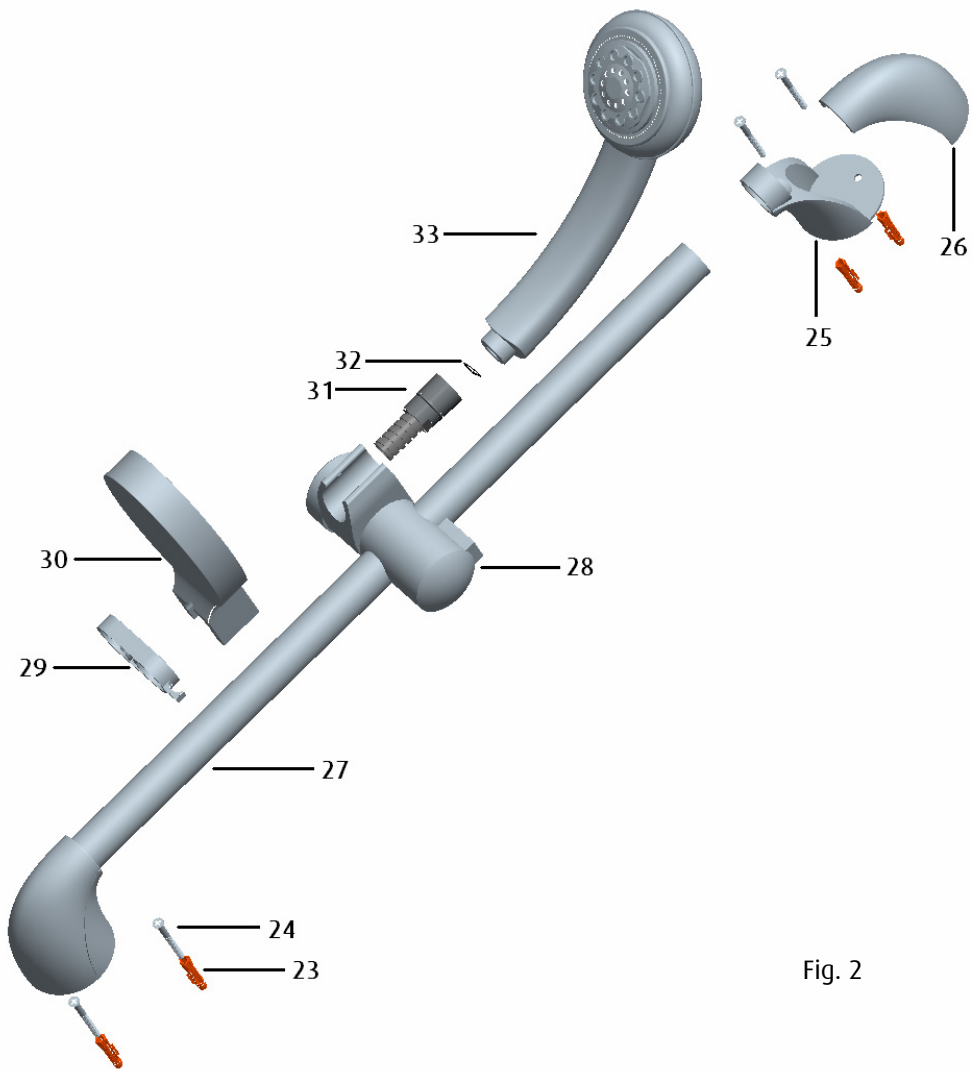

Fig. 2
4.3 Adjustable Riser Installation (See Fig. 2, page 7)